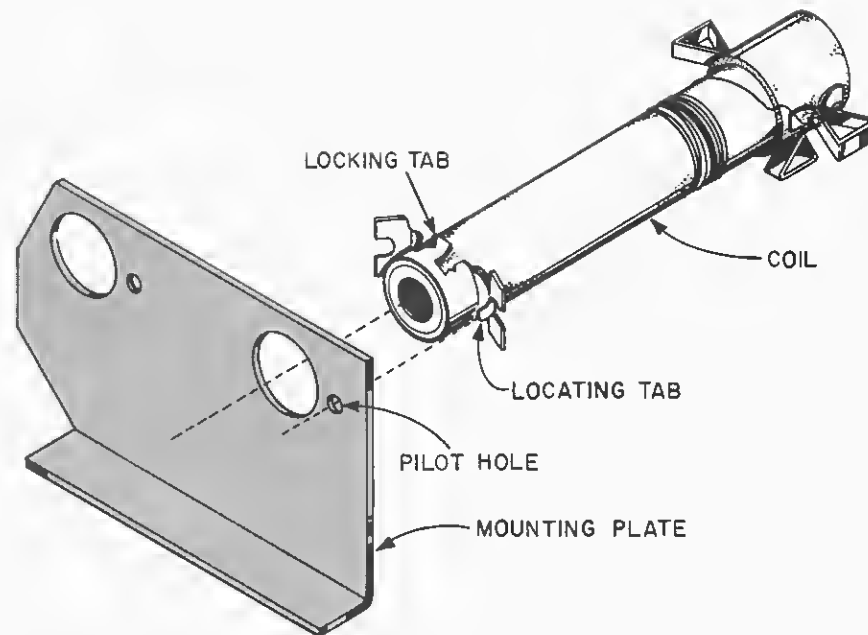

FIGURE 24
- ✓ Coil L-6 (blue dot). Mount L-6 to the front mounting plate, See Figure 24. Make sure both locking tabs hold the coil to the mounting plate and the locating tab is in the pilot hole.